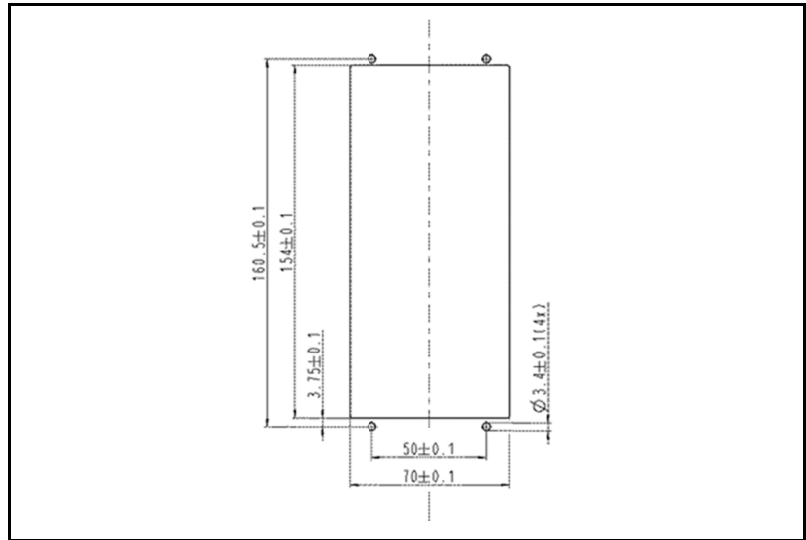

Fig. 3: Dimensions for installing the vacuum controller
** drilling pattern see Fig. 3
(see Tab. 3 and Fig. 3)